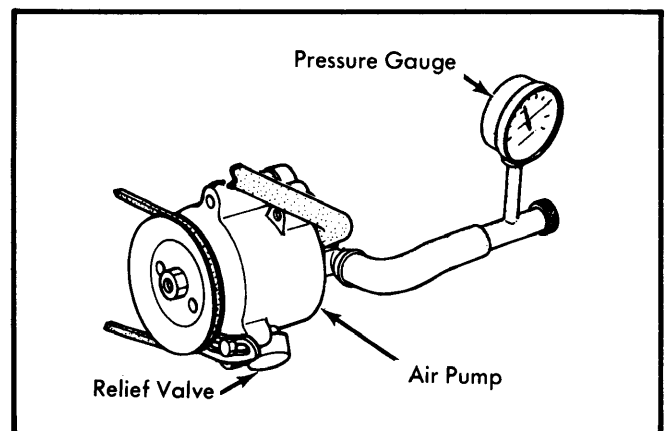

Fig. 6 Checking Air Pump Pressure Output
- 2) Listen for excessive noise at air pump. Replace air pump if noise is excessive. Check drive belt tension. Disconnect hose from air pump outlet and attach a suitable pressure gauge. See Fig. 6.